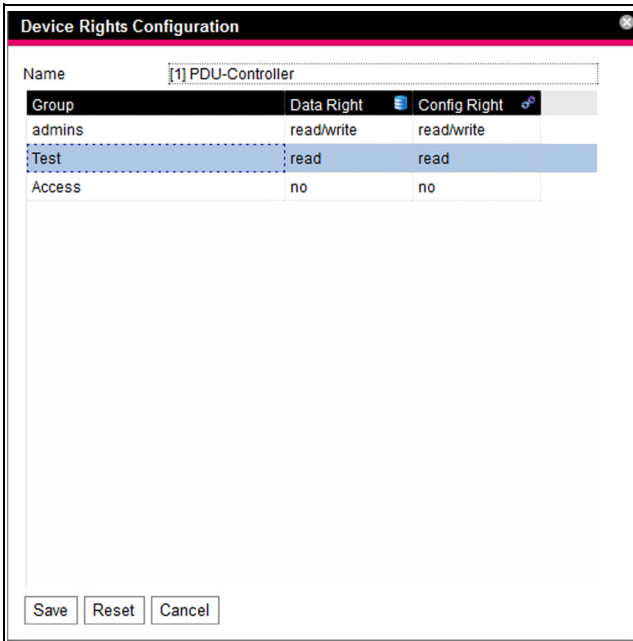

Fig. 66: "Device Rights Configuration" dialogue
- Click on the Configure Device Rights" symbol (fig. 62) The "Device Rights Configuration" dialogue will appear (fig. 66).
- After the "PDU-Controller" entry, select the "Device Rights" symbol (fig. 62). The "Device Rights Configuration" dialogue will appear (fig. 66).
The respective symbols are displayed both when selecting a sensor in the navigation area on the **Configuration** tab and opening it down to the lowest level, as well as in the "Device Rights Configuration" dialogue (fig. 66). The symbols illustrate allocation to the two data types "Data" and "Config".